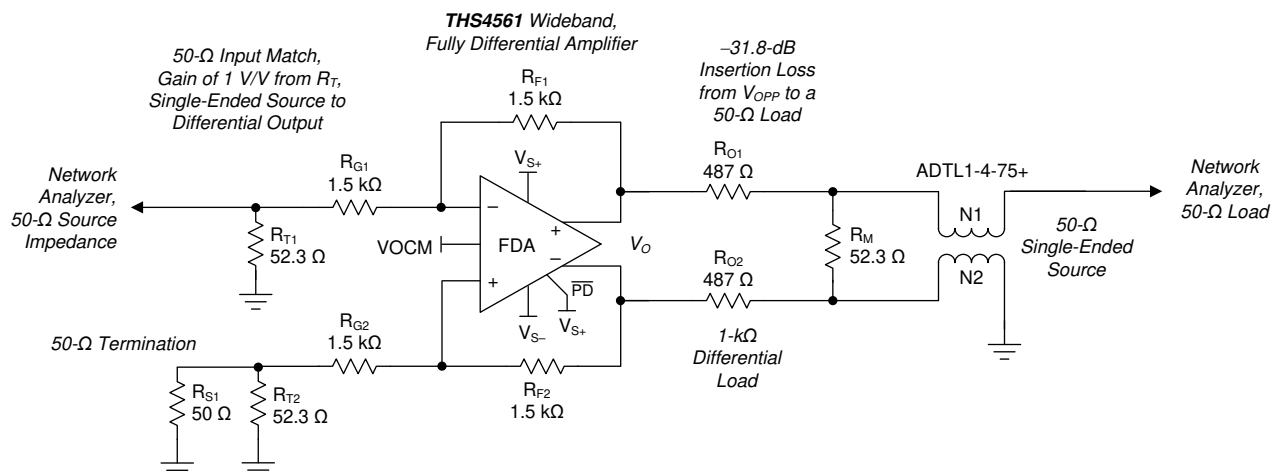

Figure 8-1. Single-Ended Source to a Differential Gain of a 1-V/V Test Circuit
at T_A ≈ 25°C, V_{OCM} pin = open, R_F = 1.5 kΩ, R_L = 1 kΩ, V_O = 2 V_{PP}, 50-Ω input match, G = 1 V/V, $\overline{PD} = V_{S+}$, single-ended input, differential output, and input and output referenced to default midsupply for AC-coupled tests (unless otherwise noted); see Figure 8-1 for a gain of 1-V/V test circuit.
at T_A ≈ 25°C, VO_{CM} pin = open, R_F = 1.5 kΩ, R_L = 1 kΩ, V_O = 2 V_{PP}, 50-Ω input match, G = 1 V/V, $\overline{PD} = V_{S+}$, single-ended input, differential output, and input and output referenced to default midsupply for AC-coupled tests (unless otherwise noted); see Figure 8-1 for a gain of 1-V/V test circuit.
The characterization circuits are typically operated with a single-ended, matched, 50-Ω, input termination to a differential output at the FDA output pins because most lab equipment is single-ended. The FDA differential output is then translated back to single-ended through a variety of baluns (or transformers) depending on the test and frequency range. DC-coupled step response testing uses two 50-Ω scope inputs with trace math to measure the differential output. Single-supply operation is most common in end equipment designs. However, using split balanced supplies allows simple ground referenced testing without adding further blocking capacitors in the signal path beyond those capacitors already within the test equipment. The starting point for any single-ended input to differential output measurements (such as any of the frequency response curves) is shown in Figure 8-1.
Most characterization plots fix the R_F ($R_{F1} = R_{F2}$) value at 1.5 kΩ, as shown in Figure 8-1. This element value is flexible in application, but 1.5 kΩ provides a good compromise for the parasitic issues linked to this value, specifically:
- Added output loading: The FDA functions similarly to an inverting op amp design with feedback resistors appearing as an added load across the outputs (the approximate total differential load in Figure 8-1 is $1.5\text{ k}\Omega \parallel 1\text{ k}\Omega = 857\ \Omega$). The 1.5-kΩ value reduces the power dissipated in the feedback networks.
The frequency domain characterization curves start with the circuit and component selections of Figure 8-1. Some of the features in this test circuit include:
- Translating from a 1-k Ω differential load to a 50- Ω environment introduces considerable insertion loss in the measurements (-31.8 dB in Figure 8-1). The measurement path insertion loss normalizes when reporting the frequency response curves to show the gain response to the FDA output pins.
Starting from the test circuit of Figure 8-1, various elements are modified to show the effect of these elements over a range of design targets, specifically:
- Resistive and capacitive output load testing. Changing to lower resistive loads is accomplished by adding parallel resistors across the output pins in Figure 8-1. Changing to capacitive loads adds series output resistors to a differential capacitance before the 1-k Ω sense path of Figure 8-1.